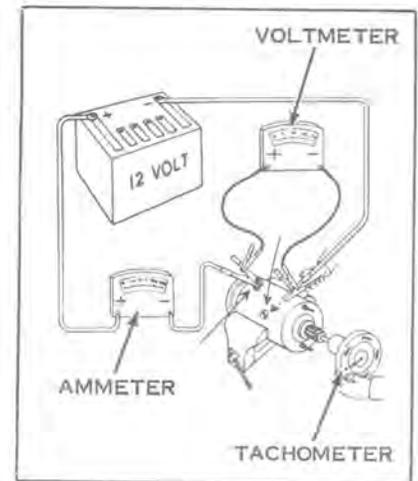

Figure 7-49
- a. Connect starter, with an ammeter in series, to a 12-volt source (see Figure 7-49). Use a tachometer or rpm indicator to indicate armature speed.